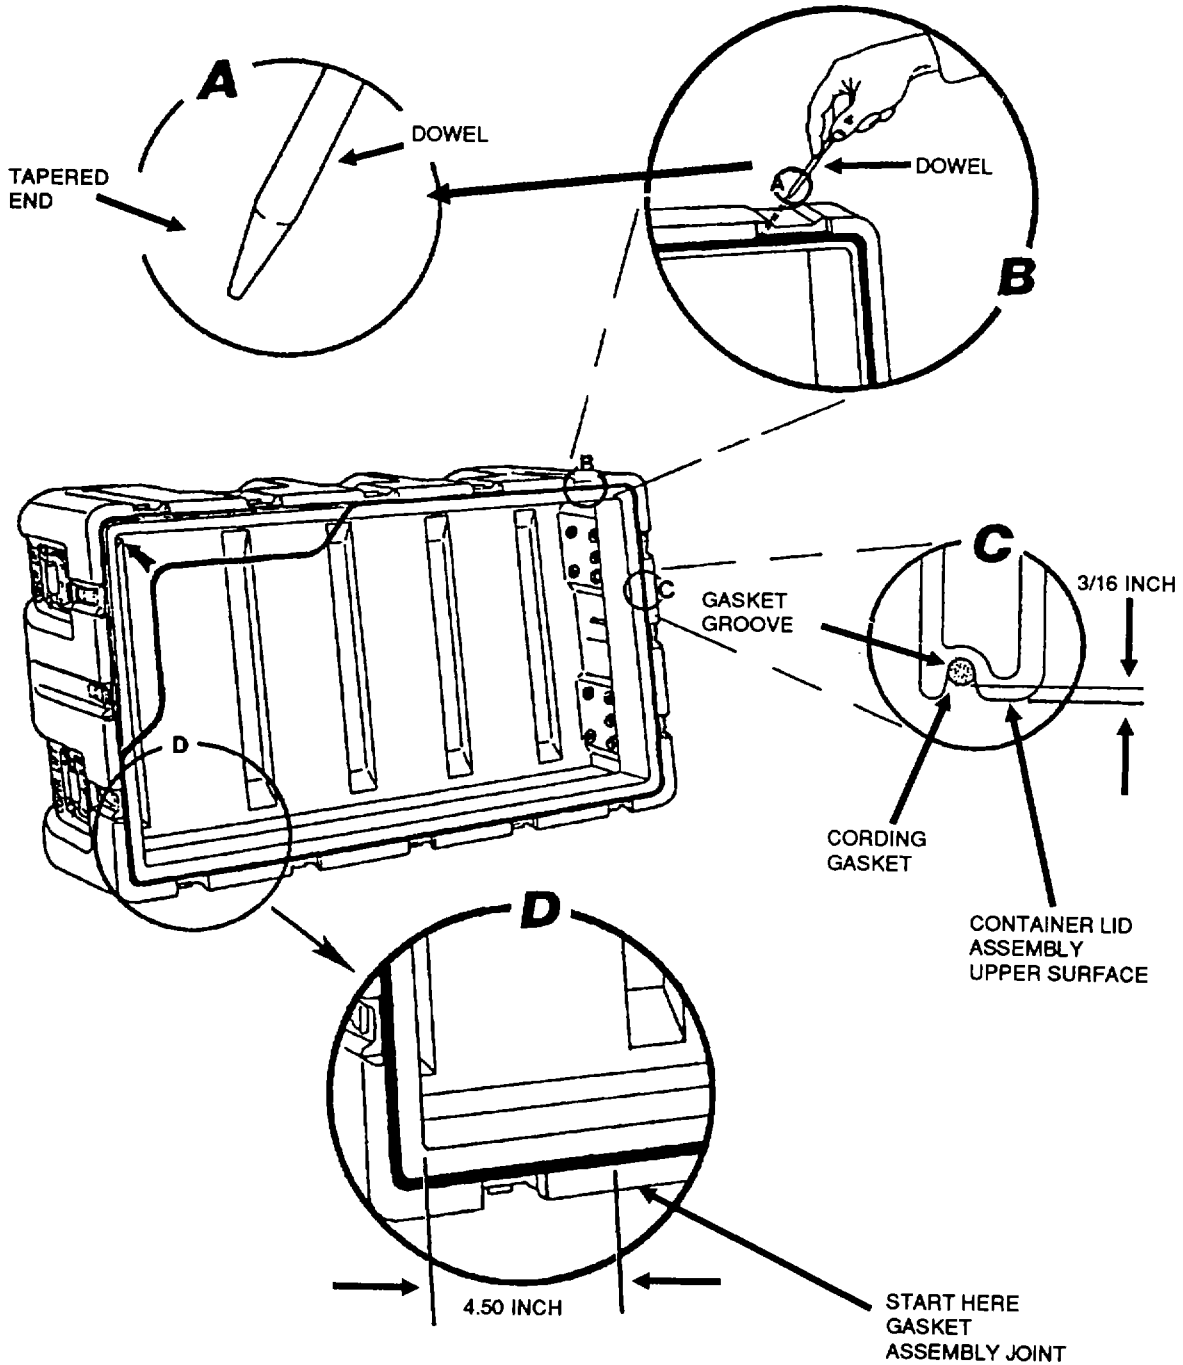

Figure 2-5. Lid Assembly Cording Gasket
Dowel 3/16 dia. (See Figure 2-5 detail A)
- b. Remove gasket by pushing dowel downward and forward into gasket (Figure 2-5 detail B). Grab gasket and place dowel under gasket. Push dowel downward and forward, at same time pulling gasket upward. Continue until entire gasket is removed.
- e. Install new cording gaskets by taking gasket assembly joint and starting at rear hinge corner as shown in Figure 2-5 detail D. Position remaining gasket and press into position (See Figure 2-5, Detail C).